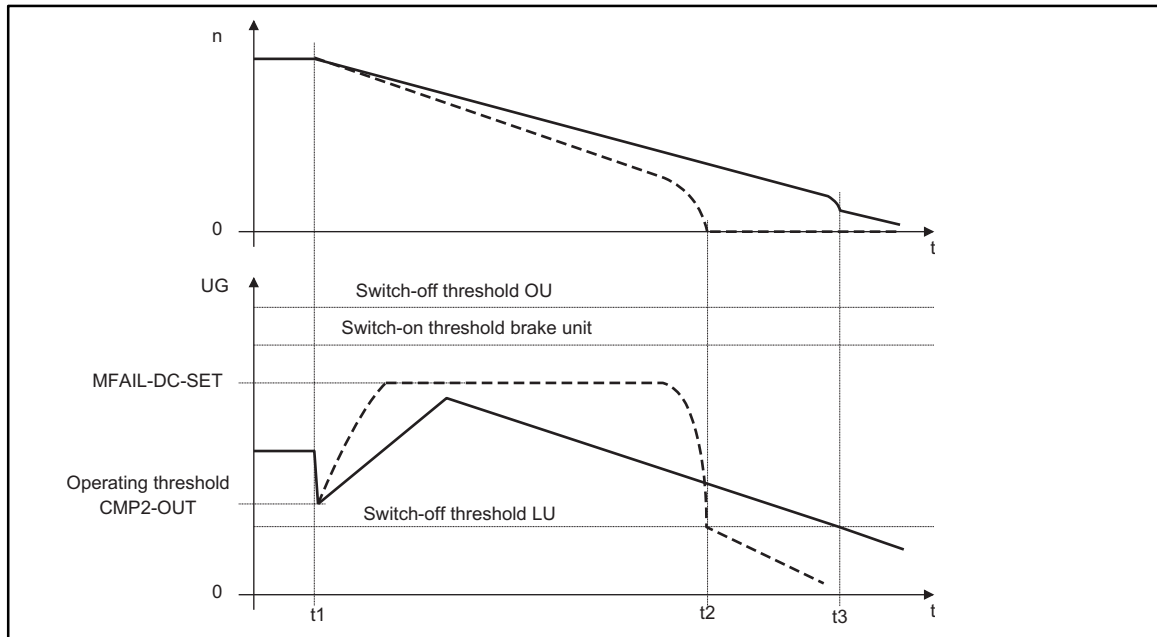

Fig. 7-116
- Increase of the deceleration time or reduction of the brake torque (see Fig. 7-116) is only possible with restrictions: